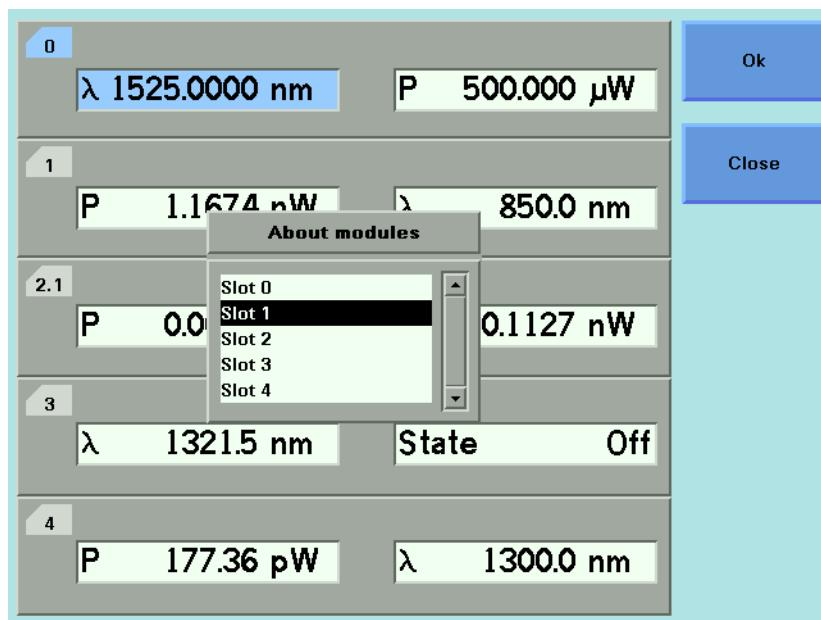

Figure 37 Slots with Installed Modules
- 2 Move to the <About Modules> menu option and press *Enter*. You see a box displaying the slots which have installed modules, see Figure 37 .
- 5 Press [Close] to return to the menu in Figure 37 .